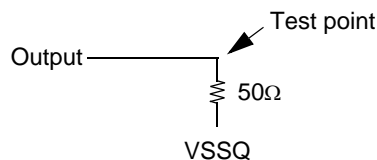

Figure 1 : Pullup slew rate test load
a. Pullup slew rate is characterized under the test conditions as shown in Figure 1.